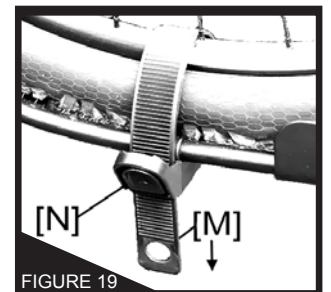

FIGURE 19
1. Release wheel tray straps [Fig 19] by pulling on tab end [A] while pressing release tab [B]. Tuck strap behind rear wheel. Pulling on the strap helps to release the buckle.